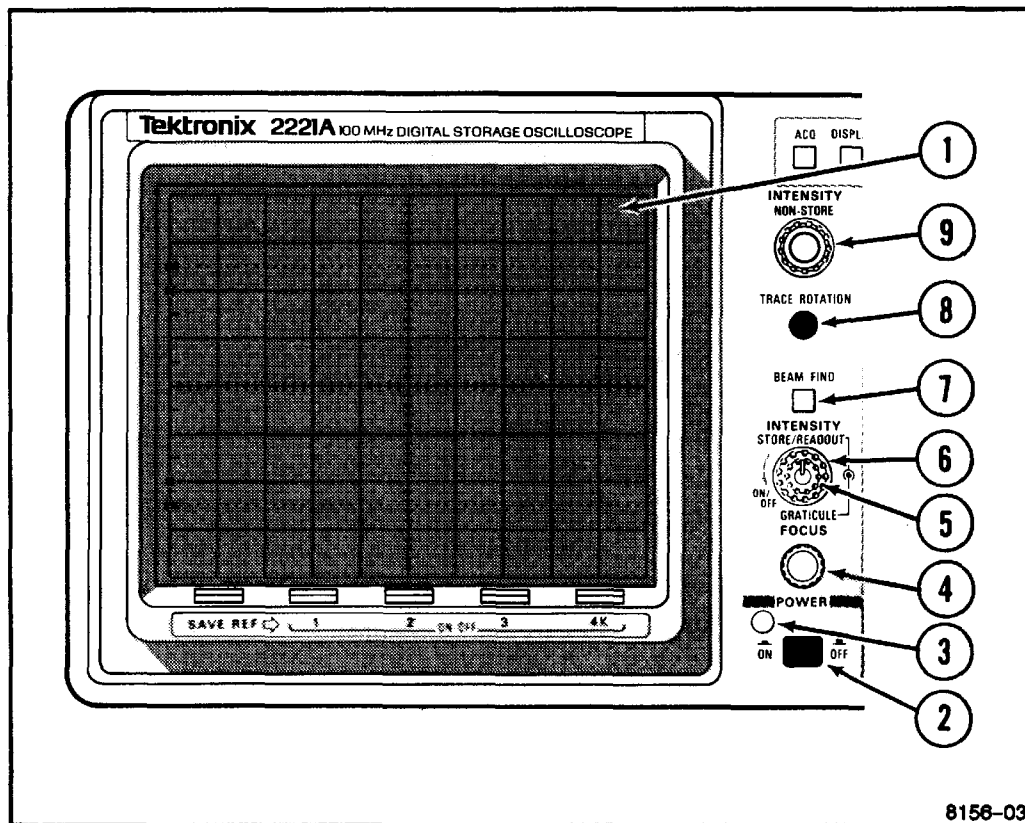

Figure 3-1. Power and display controls and power-on Indicator.
Refer to Figure 3-1 for location of items 1 through 10.
- ① **Internal Graticule**—Eliminates parallax viewing error between the trace and the graticule lines. Rise-time amplitude and measurement points are indicated at the left edge of the graticule.